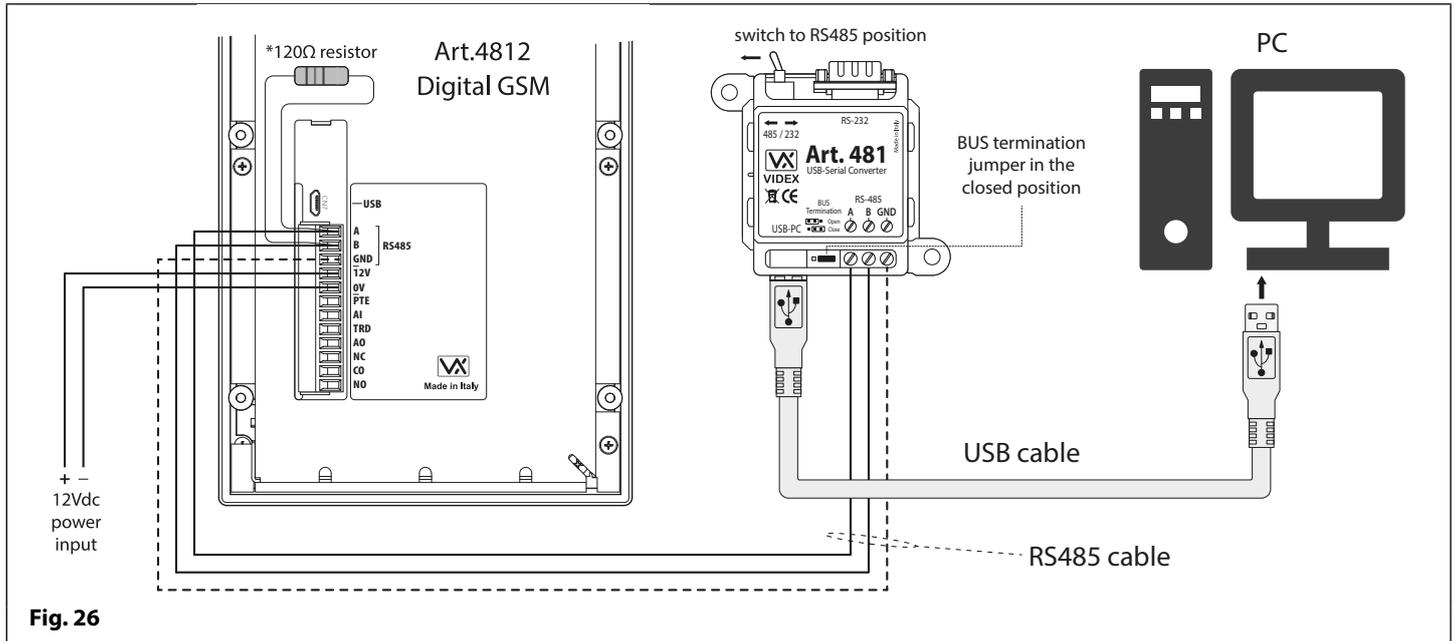

Fig. 26
The Art.4812 digital GSM can also be connected using an RS485 bus connection via an RS485 to USB converter (Art.481) with a standard USB cable then connected directly to the PC, as shown in **Fig.26**.
* For end of line termination a 120 Ohm resistor must be fitted across the RS485 terminals A and B, as shown above in **Fig.26**.